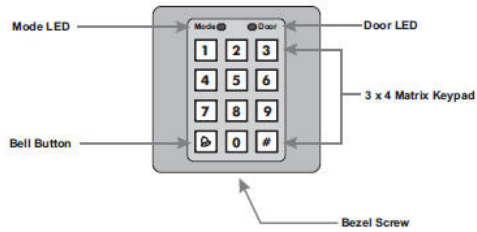

Figure 1 : SA1DP Controller - Labeled Diagram
2. Remove the Bezel Screw from the SA1DP (see Figure 1).